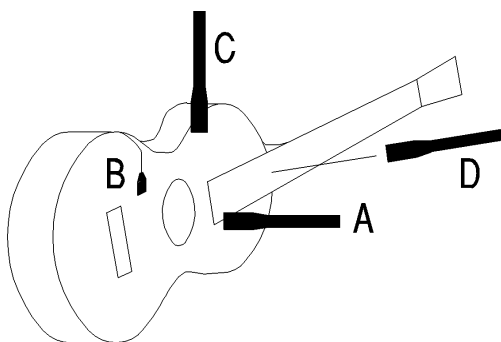

Fig. 3. Guitar miking (see text).
- **Mike closer.** Put the guitar mic close to the sound hole (Fig. 3-A). The tone there is very bassy, so turn down the low-frequency EQ on your mixer (or on the mic) until the sound is natural. Also cut a few dB around 3 kHz to reduce harshness. Put a foam pop filter on the vocal mic and angle it upwards. The singer should have lips lightly touching the pop filter. Again, the vocal tone will be bassy, so roll off the excess lows with your mixer's EQ.
- Use a mini omni mic on the guitar to increase isolation. The Crown GLM-100 works very well taped about ½ inch from the low E string, about halfway between the sound hole and bridge (Fig. 3-B). Mounting the mic closer to the sound hole gives a bassier sound. You can roll off the excess bass with your mixer's EQ, and this will increase the separation.
- Use a supercardioid mic on the guitar. Aim the "dead" null of the guitar mic's pickup pattern at the mouth. Angle the vocal mic up toward the mouth, and angle the guitar mic down toward the guitar (Fig. 3-C). Then the guitar mic won't pick up so much vocal. This method helps even with a cardioid mic, such as the CM-700.
Now let's look at mic positions. Try a CM-700 about 1 foot from where the fingerboard joins the guitar body—at about the 12th fret (Fig. 3-D). That's a good starting point for capturing the acoustic guitar accurately. Still, you need to experiment and use your ears. Close to the bridge, the sound is woody and mellow.